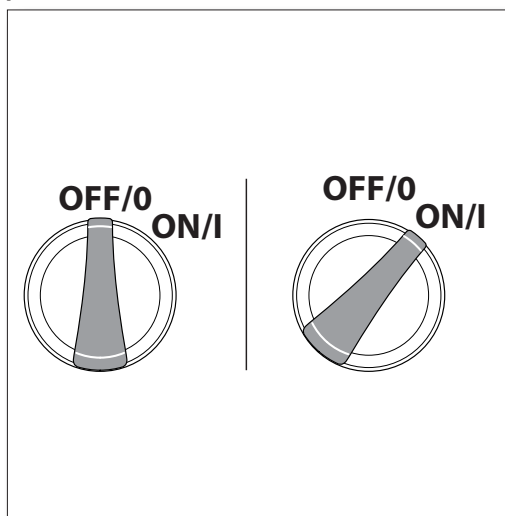

Fig. 18
- Make sure the “ON/OFF” switch is in the “OFF” position. The power switch has international symbols for ‘on’ and ‘off’: On (I) Off (O), (**Fig. 18**).